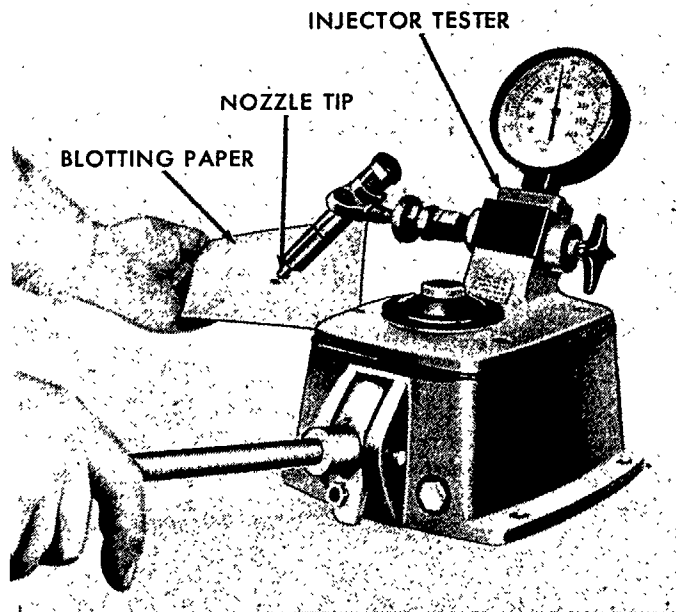

Figure 29
- 3. Nozzle Seat Leakage:** Wipe the nozzle tip dry with clean blotting paper, Figure 29. Apply 2520-2594 psi (176.4-182.4 kg/sq. cm) to the injector, and hold the pressure for one minute. Apply a piece of blotting paper to the tip of the nozzle as shown. The calibrating fuel oil stain should not exceed $\frac{1}{2}$ in. (12.700 mm) diameter.